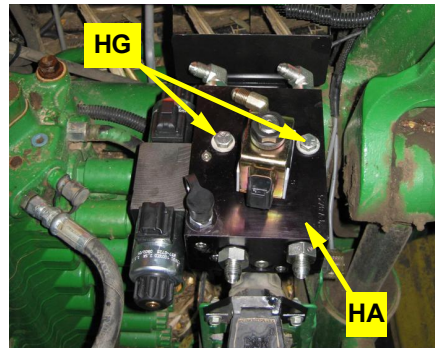

Figure 2b: Installed steering block.
- b. Secure the hydraulic steering block **HA** to bracket **HE** using the hardware in group **HG** (Figure 2b).